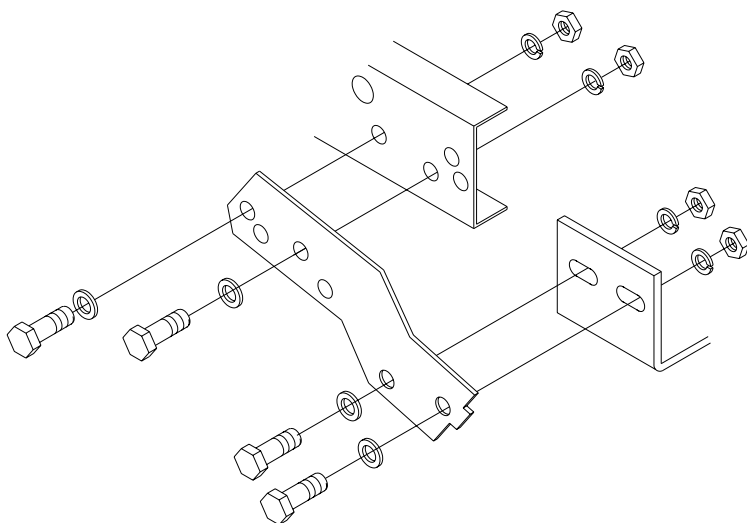

FIGURE 2A
STEP 2: Using 1/2 inch hardware, install bumper onto mounting brackets with brackets outside of bumper hitch. See figure 2A. DO NOT TIGHTEN.